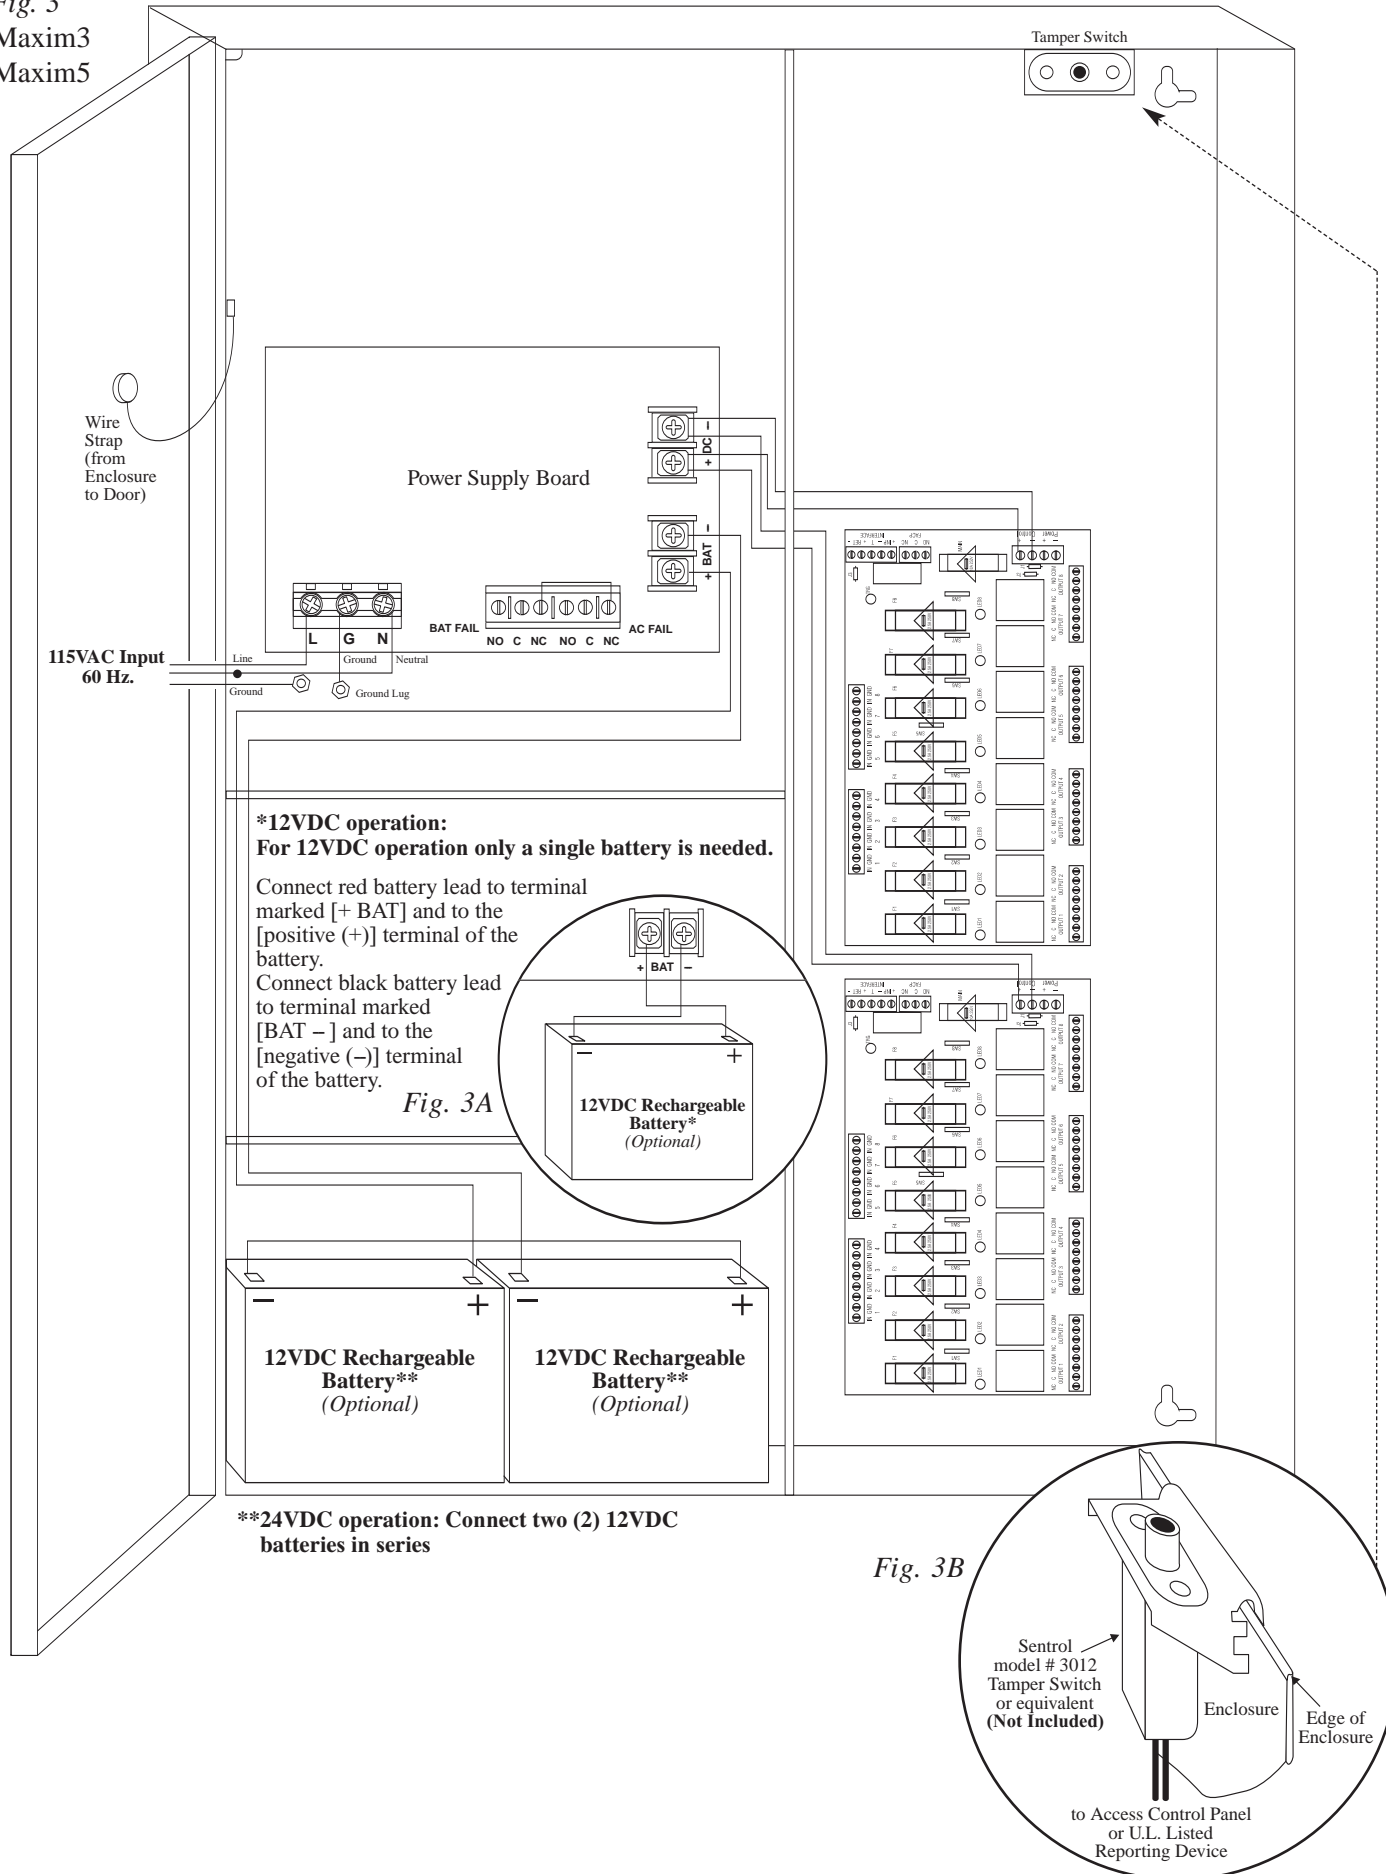

Fig. 4
+ BAT -	Stand-by battery connections. Connect one (1) 12VDC battery to the terminals marked [+ BAT -] for 12VDC operation ( Figs. 3 and 3A, pg. 9 ). Use two (2) 12VDC batteries wired in series for 24VDC operation ( Fig. 4, pg. 10 ).